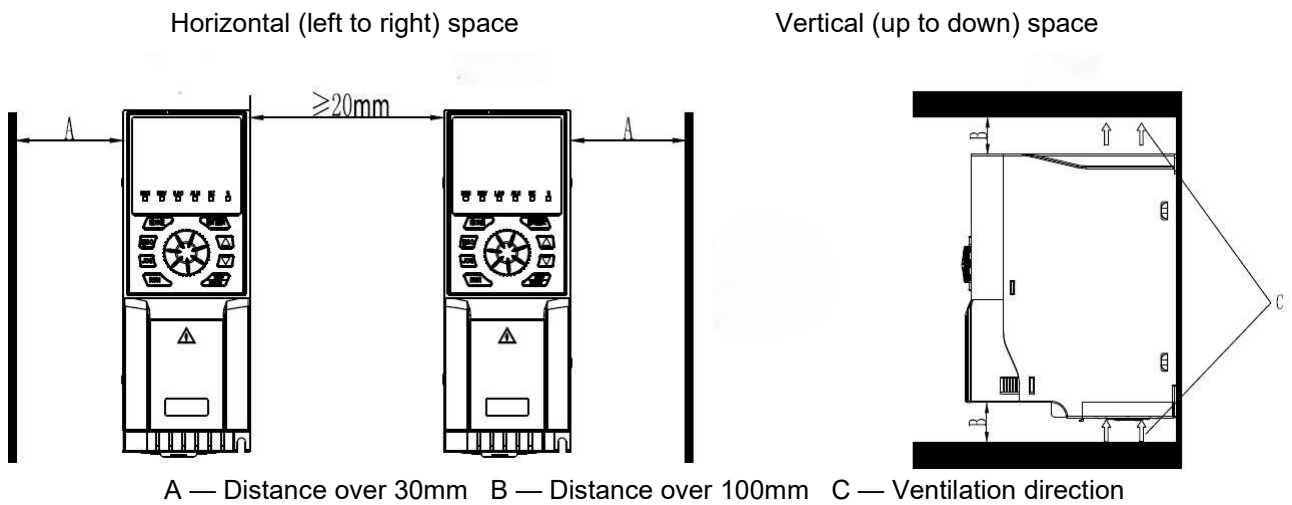

Figure 4.3 Spacing requirements for multiple installations
(3) When multiple units are installed, they are usually installed side by side. The installation spacing requirements are shown in Figure 4.3;